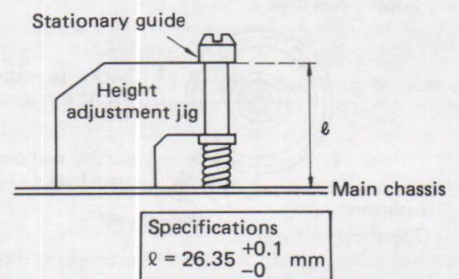

Figure 34
- ① Correctly place the guide height adjustment jig on the main chassis as shown in Fig. 34.
- ② Slowly turn the adjustment nut on the upper part of the stationary guide in either direction with a flat-bladed screwdriver so that the adjusted height is within specification ( $l = 26.35^{+0.1}_{-0}$  mm, as shown in Fig. 34.)